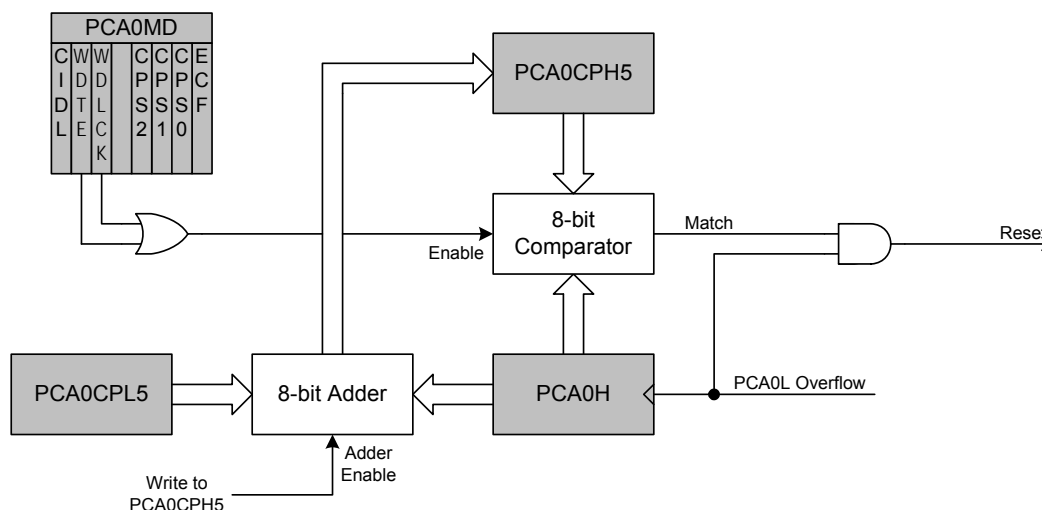

Figure 27.11. PCA Module 5 with Watchdog Timer Enabled
While the WDT is enabled, writes to the CR bit will not change the PCA counter state; the counter will run until the WDT is disabled. The PCA counter run control bit (CR) will read zero if the WDT is enabled but user software has not enabled the PCA counter. If a match occurs between PCA0CPH5 and PCA0H while the WDT is enabled, a reset will be generated. To prevent a WDT reset, the WDT may be updated with a write of any value to PCA0CPH5. Upon a PCA0CPH5 write, PCA0H plus the offset held in PCA0CPL5 is loaded into PCA0CPH5 (See Figure 27.11).